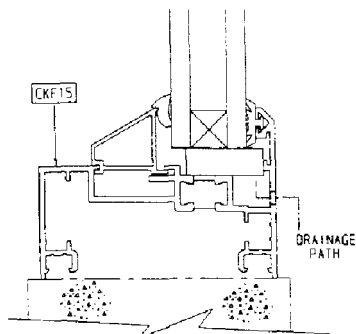

Fig. 22. FIXED LIGHT - CILL
2.1 Fixed Lights Only (Figs. 22 & 34)